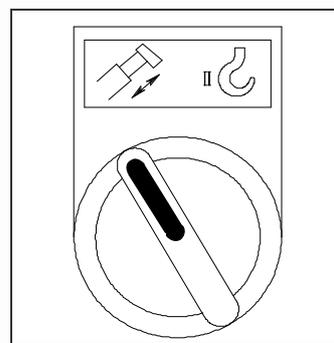

Fig. 04 – 27
- b) As illustrated in Fig. 04 – 28: